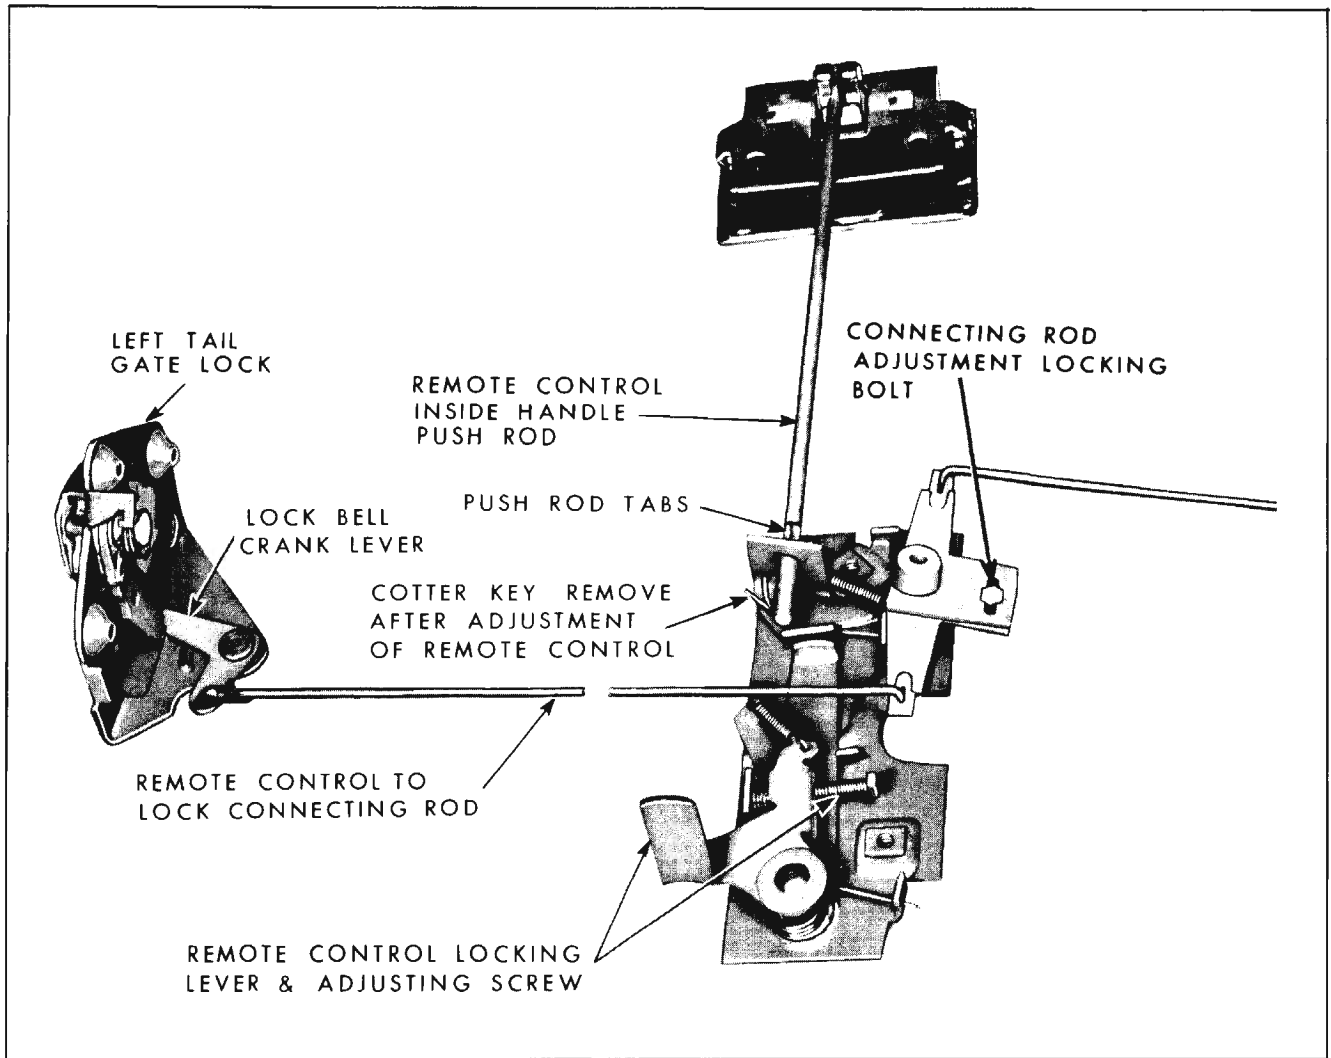

Fig. 16-201 Tail Gate Lock Remote Control
3. Disengage spring clip and detach lock remote control connecting rod from lock remote control. (Fig. 16-201)
4. Remove tail gate lock attaching screws and remove tail gate lock with attached connecting rod. (Fig. 16-201) Detach connecting rod from lock.
When attaching connecting rod to lock bellcrank lever, make sure bellcrank lever is in position shown in Fig. 16-201. When installing